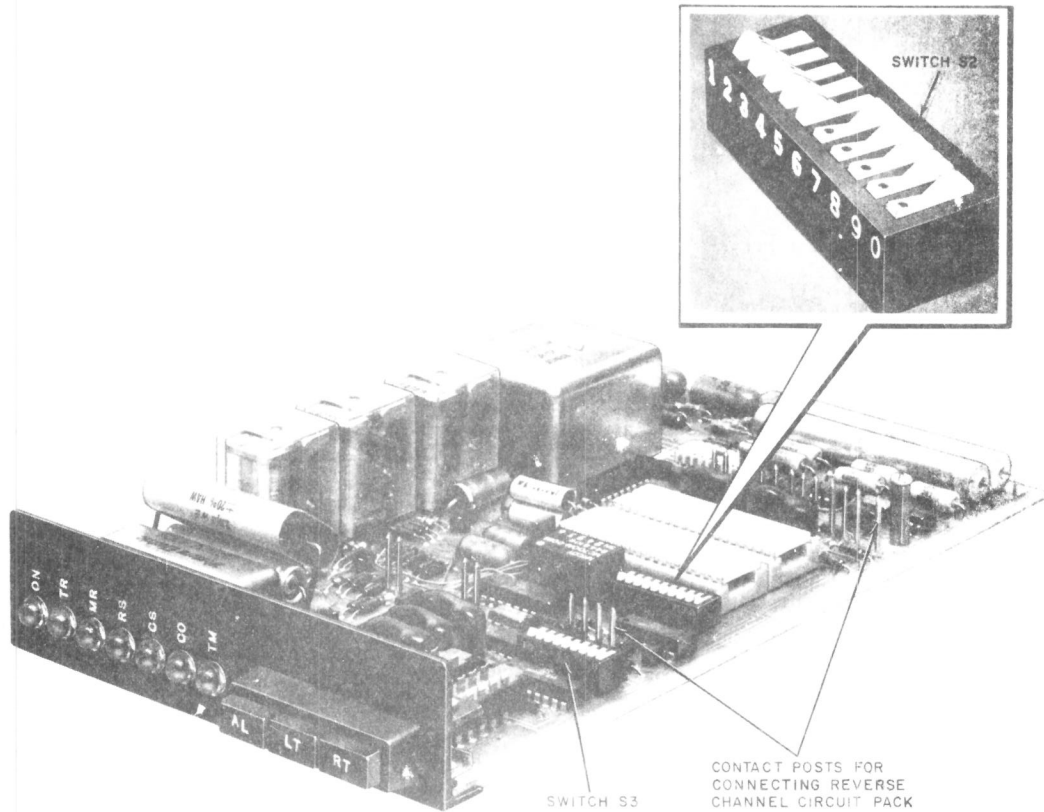

Fig. 2—Data Set 202S-L1 (-L1A Is Similar)
- The basic data set (Fig. 2) is a circuit pack with a faceplate coded -L1C.
2.04 The miniature rocker switch assemblies (Fig. 2 and 3) S2, S3 and S4 allow the telephone company (telco) employee to select options